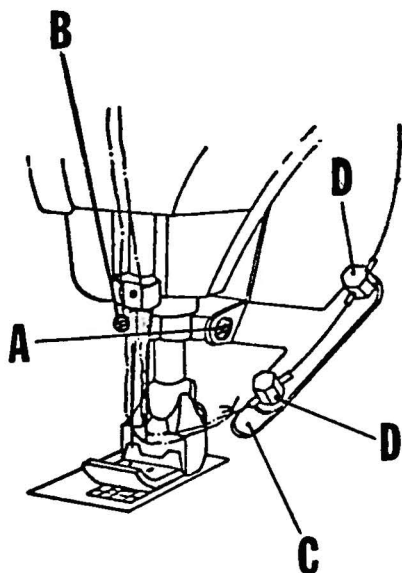

Fig. 26
This condition can be accomplished by loosening screws (A & B, Fig. 26) and position guard plate (C) so the wiper will not hook into the fabric. Retighten screws. Screws (D) should be set so as to offer the least possible resistance to the wiper wire as it passes through its arc of travel.